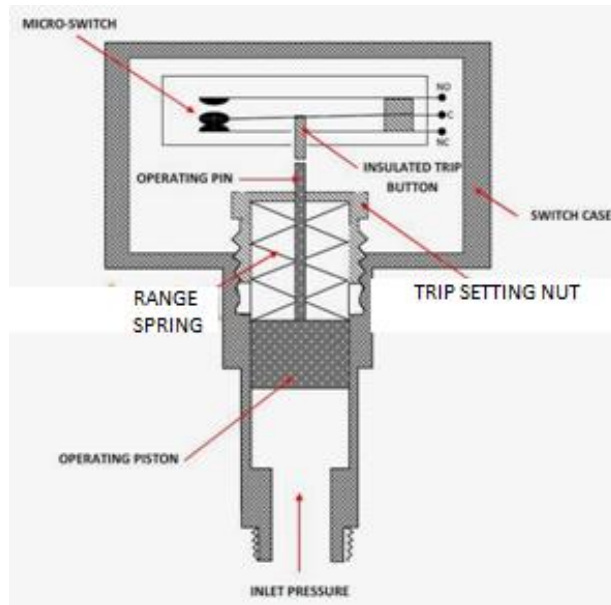
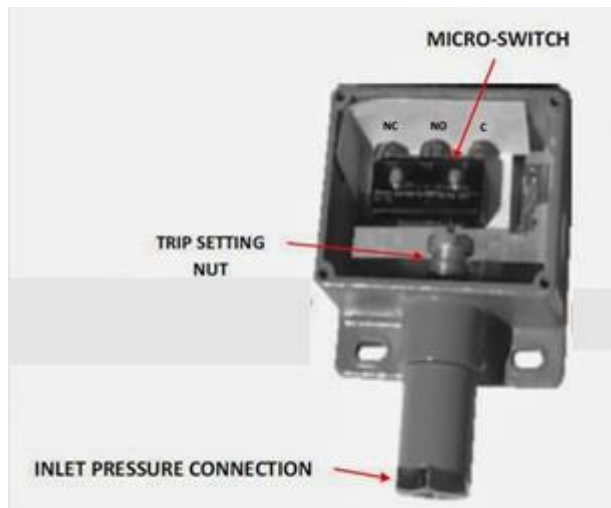

Figure 19 Sectional View of Oil Pressure Drop Relay
Figure 20 Pictorial View of Oil Pressure Drop Relay
- ❖ A sectional view of the pressure switch showing all the basic parts of the switch is shown above figure 19. Also shown below figure 20 is a pictorial view of the pressure switch: